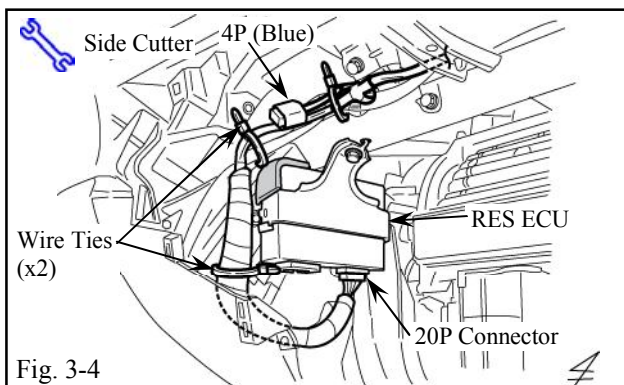

Fig. 3-4
- (d) Connect the V4 Harness's White 20P Connectors to the RES ECU. (Fig. 3-4)
- (e) Using 2 Wire Ties to secure the V4 Harness to the Vehicle Harness. (Fig. 3-4)